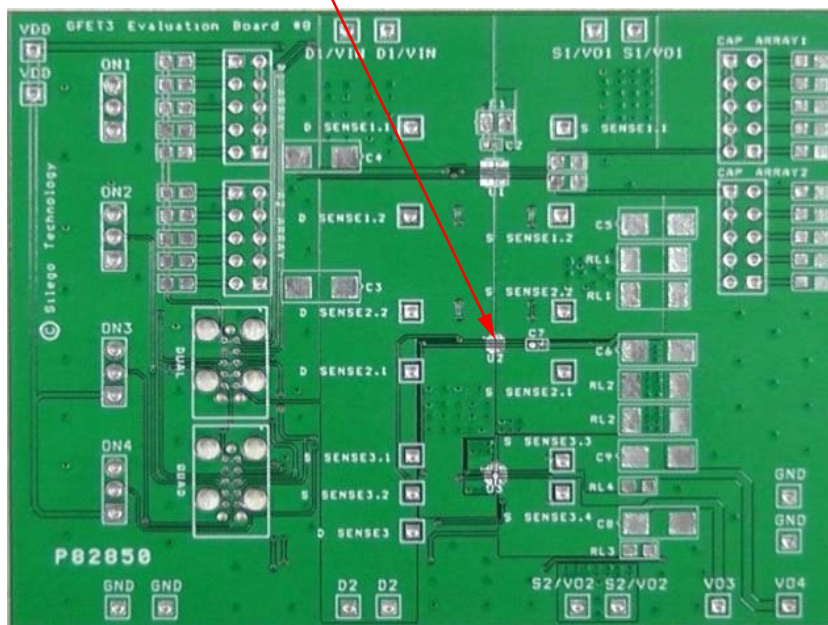

Figure 1. SLG59M1512V Evaluation Board.
2. Since the D1, D2, S1 and S2 pins dissipate most of the heat generated during high-load current operation, it is highly recommended to make power traces as short, direct, and wide as possible. A good practice is to make power traces with absolute minimum widths of 15 mils (0.381 mm) per Ampere. A representative layout, shown in Figure 1, illustrates proper techniques for heat to transfer as efficiently as possible out of the device;
A GFET3 Evaluation Board for SLG59M1512V is designed according to the statements above and is illustrated on Figure 1. Please note that evaluation board has D_Sense and S_Sense pads. They cannot carry high currents and dedicated only for RDS_{ON} evaluation.